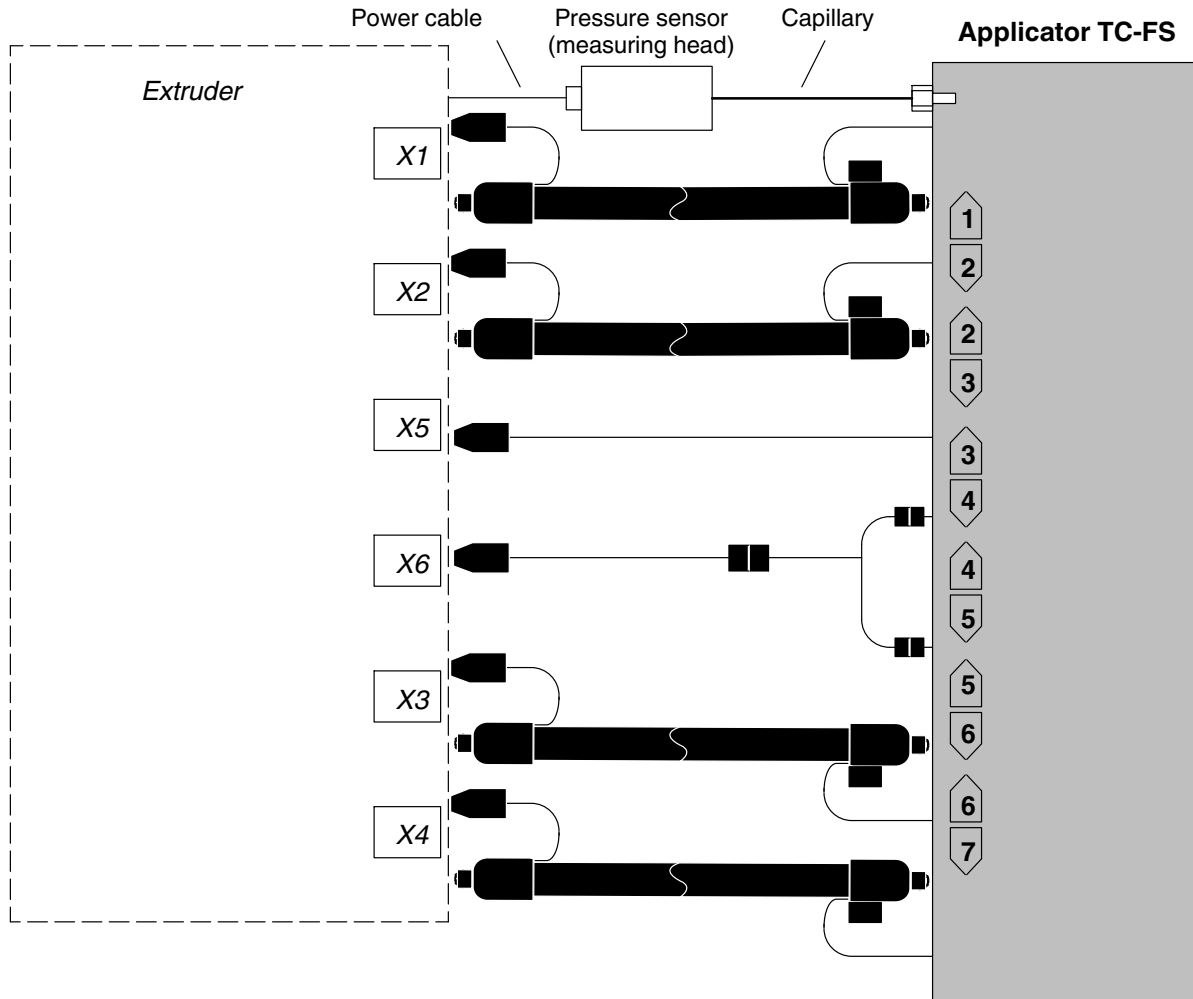

Fig. 15 Example: Application system with one extruder (excerpt)
1. Plug the connecting cables for heating zones 1, 2, 6 and 7 into the corresponding heated hoses. With the aid of the adapter and extension cable, connect the cables for heating zones 4 and 5 to a hose receptacle on the melter. Use an extension cord to connect heating zone 3 to the hose receptacle on the melter (Fig. 15).
1. Connect the power cable to the melter (Refer to Fig. 15).